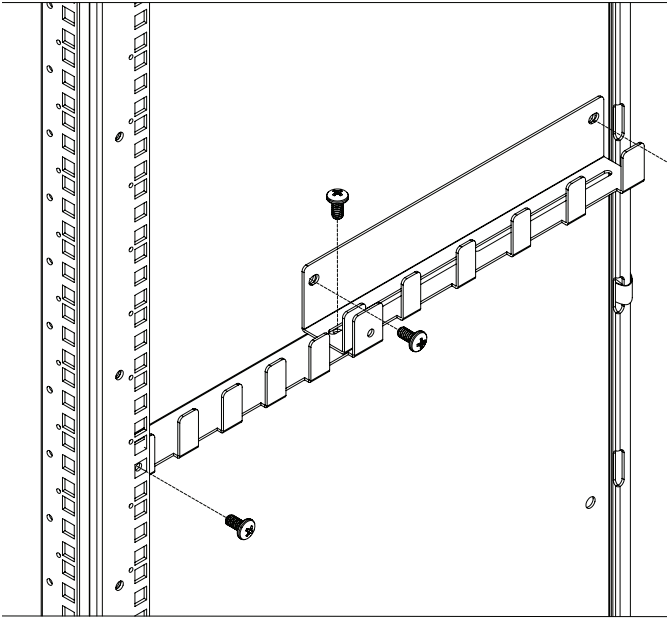

Figure 6-3. Horizontal Cable Manager.
Also available is a Horizontal Cable Manager (pictured in Figure 6-3).
1. Fasten the Horizontal Cable Manager to the side panel using the included screws (see Figure 6-3).